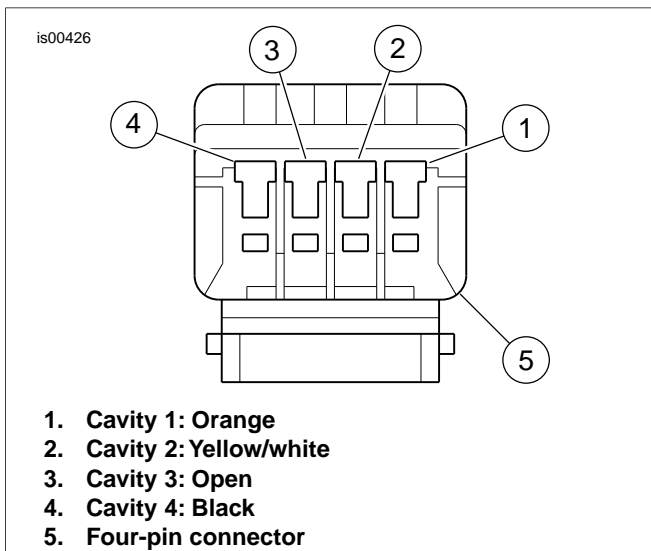
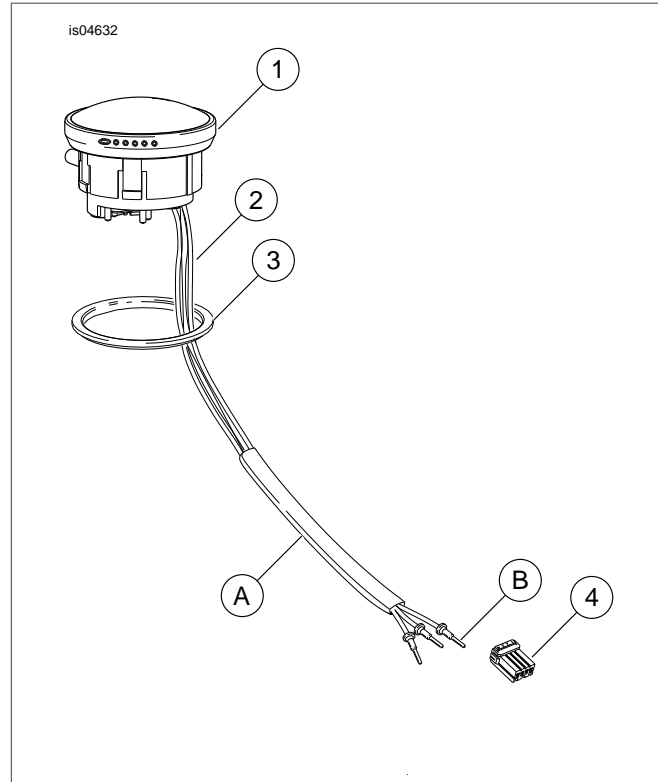

Figure 2. Four-Pin Connector (viewed from wire end)
Figure 3. Service Parts: LED Fuel Gauge Kit
See Figure 3 and Table 1.
2. See Figure 3. Press the pin on the socket terminal side of the connector, and pull apart the pin and socket halves.
4. **For Carbureted Models:** See Figure 3. Remove the fuel gauge by firmly grasping and carefully pulling up (do NOT twist) on the gauge just far enough to free it from the fuel tank. Disconnect the two sending unit connectors. Feed the conduit and two wires up through the tube while removing the gauge. Remove and discard the fuel gauge.
For Fuel-Injected Models: See Figure 3. Remove the fuel gauge by firmly grasping and carefully pulling up (do NOT twist) on the gauge to free it from the fuel tank. Feed the conduit and three wires up through the tube while removing the gauge. Remove and discard the fuel gauge.
2. See Figure 3. Assemble the new gasket (3) to the LED fuel gauge (1) from the kit. Install the gasket so the flat side contacts the edge of the gauge.
3. While carefully lowering the fuel gauge, feed the wire harness (2) down into the drain tube until the three short (Orange, Black, Yellow/White) wires exit the hole at the bottom of the fuel tank. Gently pull the wires to remove slack while installing the gauge to the fuel tank. Do not twist the gauge during installation. Hold the gauge firmly and press down until it snaps into place.
4. See Figure 2. Install three wires (1, 2, and 4) into the correct cavities of the four-pin connector from the kit. Refer to the AMP MULTILOCK ELECTRICAL CONNECTORS, INSTALLING SOCKET/PIN TERMINALS section in the Service Manual.